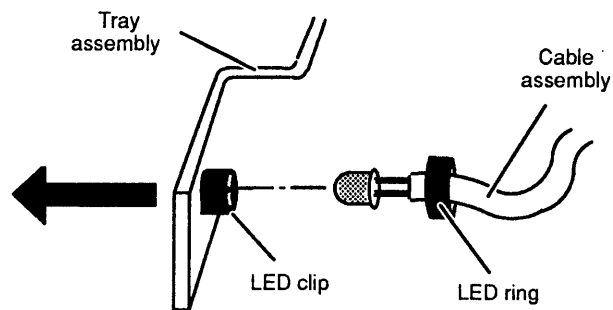

Figure 4-25 Inserting the LED End of the Cable Assembly
7. Insert the LED end of the cable assembly through the LED clip and the hole in the tray assembly, as shown in Figure 4-25.